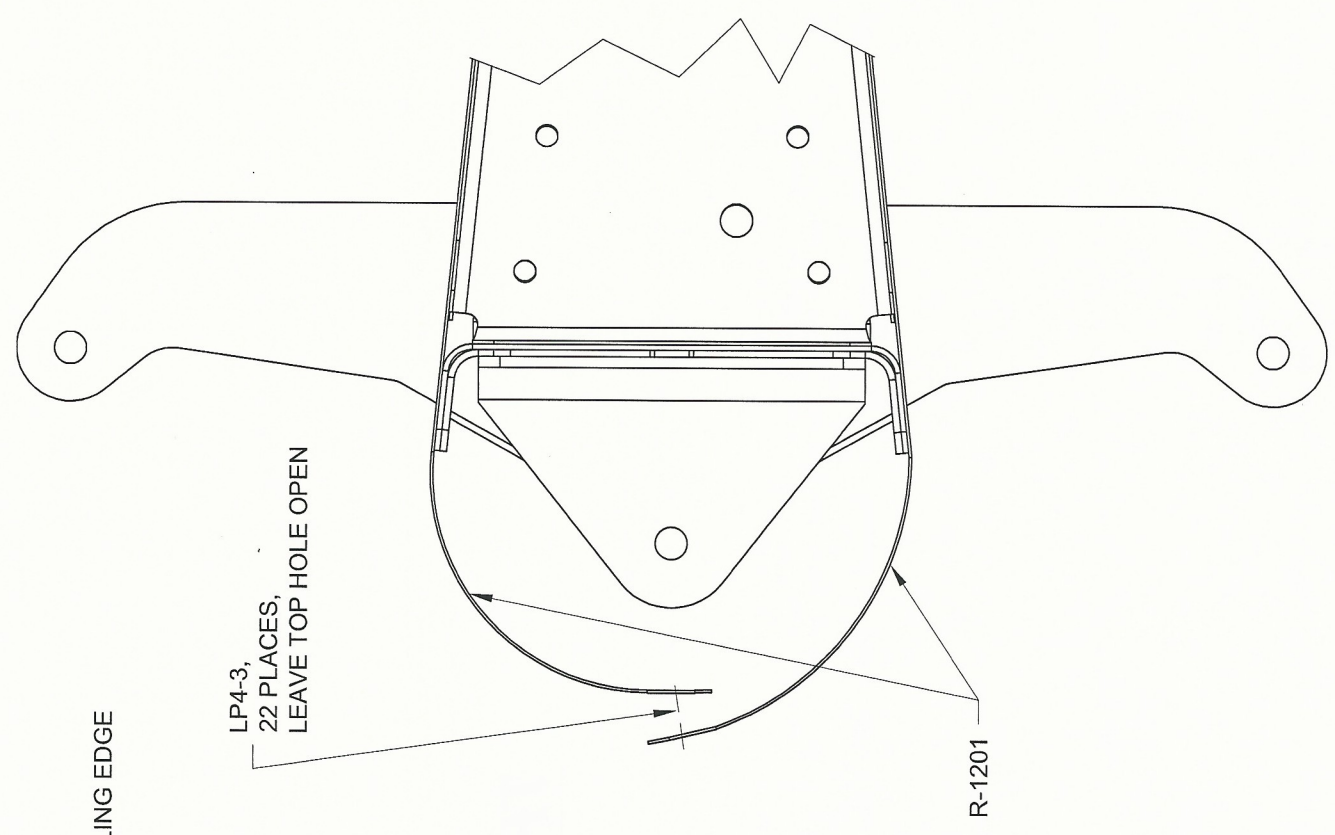

FIGURE 3:
Step 4: Close, and rivet the R-1201 Main Skin on the forward side of the R-1202 Spar. The main skin must overlap onto itself as shown in Figure 3.